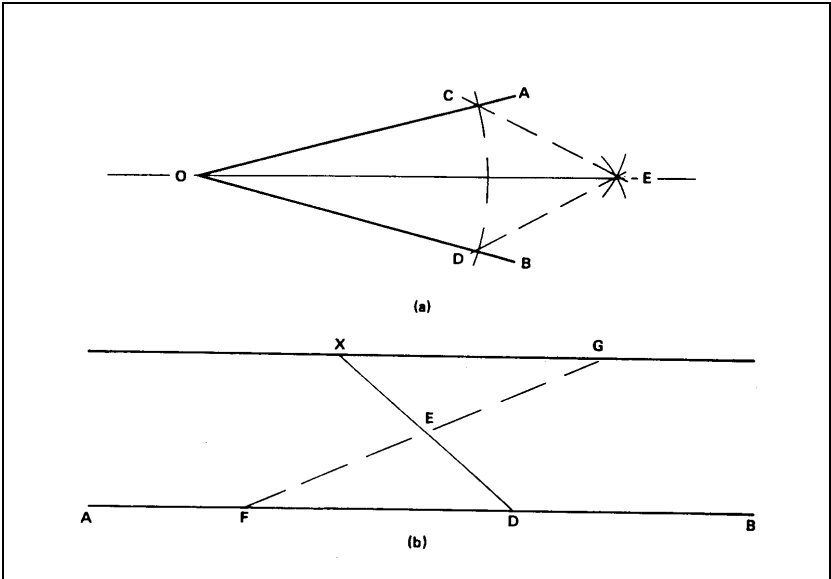

Fig 11-3-9 Bisecting Angles and Forming Parallel Lines
11. **Bisecting Angles** (Fig 11-3-9 a):
12. **To Form a Parallel Line** (Fig 11-3-9 b):